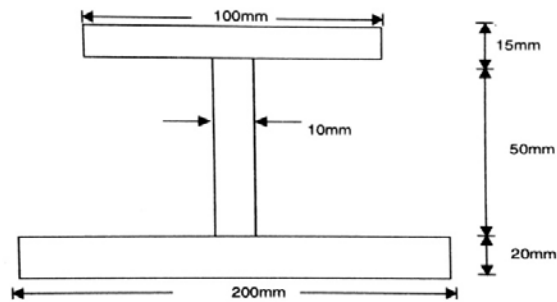

Fig. No.9
- a) Calculate position of centroid for an unsymmetrical I- section as shown in Fig. No. 9.